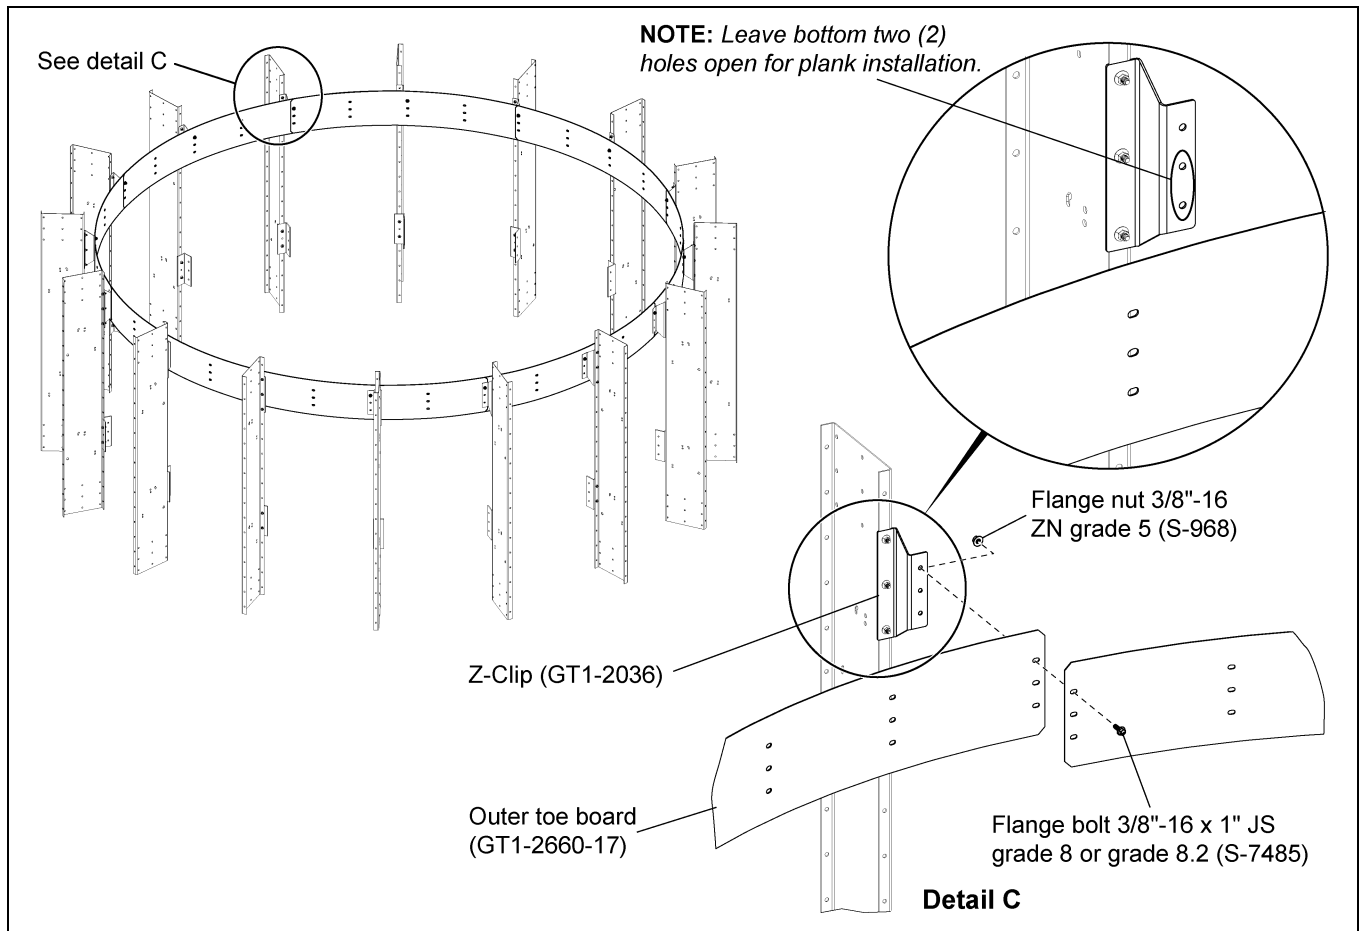

Figure 5D
1. Install the outer toe board (GT1-2660-17) to the Z-clips (GT1-2036). All toe boards should be installed between the Z-clips using 3/8"-16 x 1" JS grade 8 or grade 8.2 bolts (S-7485) and 3/8"-16 ZN grade 5 nuts (S-968). (See Figure 5D.)